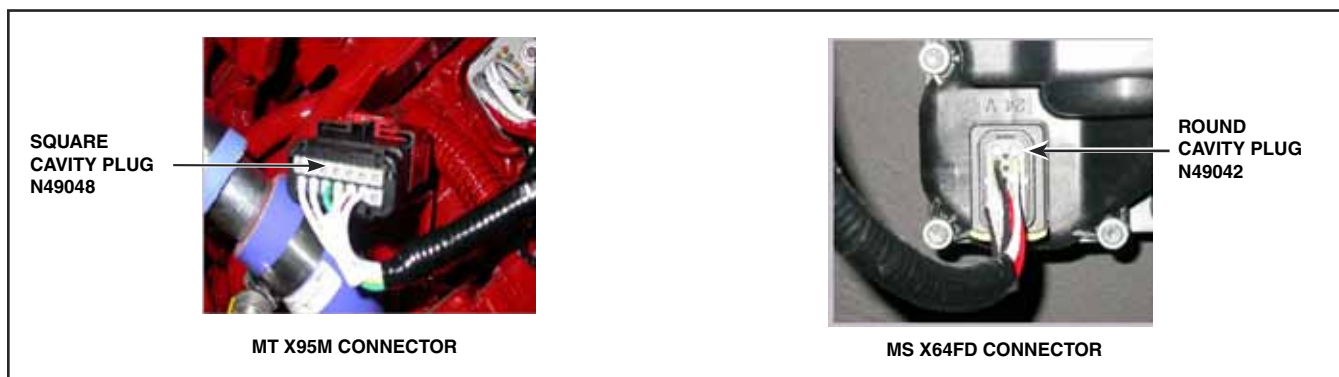

Figure 3 - Connectors with Cavity Plugs
- c. Install the cavity plugs in the connectors. Use the square cavity plugs N49048 for the MT X95 M connector. Use the round cavity plugs N49042 for the MS X64FD connector. See Figure 3.